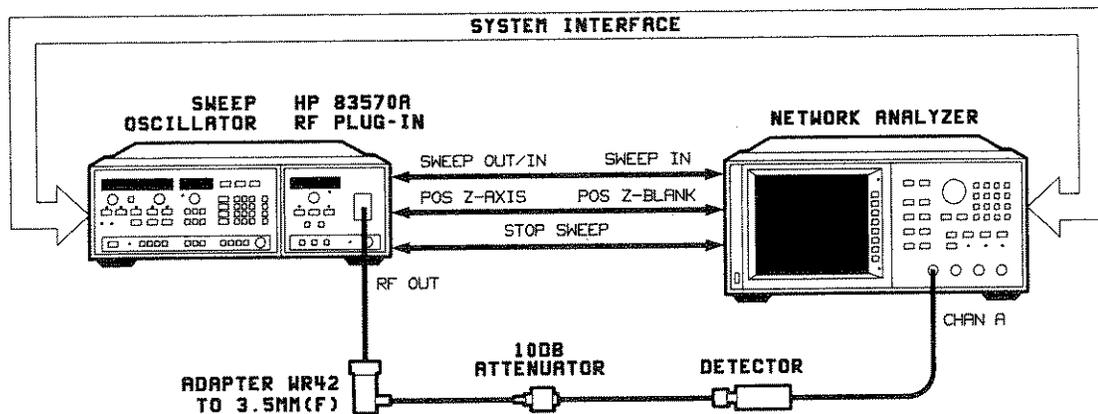

Figure 5-16. Internal Levelled Flatness Adjustment Test Setup
1. Connect the equipment as shown in Figure 5-16. Allow 30 minutes for warm-up.